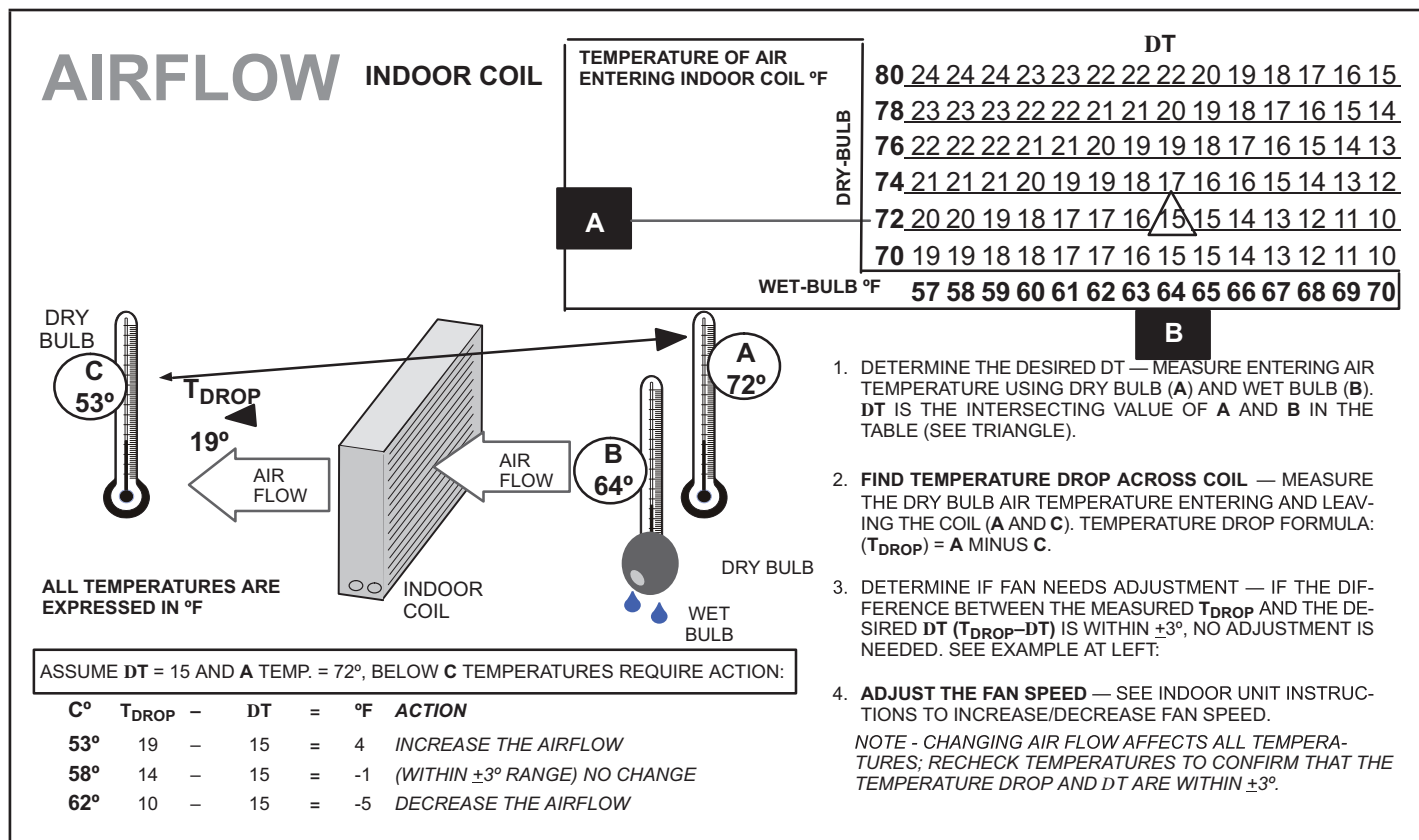

FIGURE 21. Checking Indoor Airflow over Evaporator Coil using Delta-T Chart
This system uses R-454B which operates at slightly lower pressures than HFC-410A. The field-installed liquid line filter drier is approved for use with R-454B. Do not replace any components designed for use with HCFC-22. Check airflow using the Delta-T (DT) process using the illustration in figure 21.